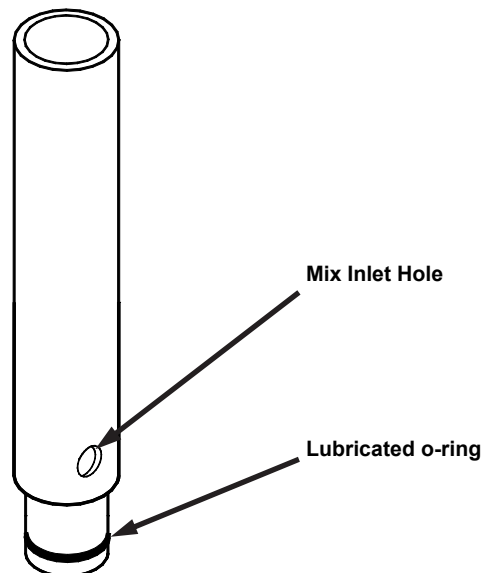

Fig. 25
5. Install the o-ring on the carburetor (Fig. 25). Apply lubricant sparingly over the o-ring. Place the carburetor tube in the bottom of the mix pan for sanitizing. Make certain that lubricant does not block the mix inlet hole on the carburetor tube.